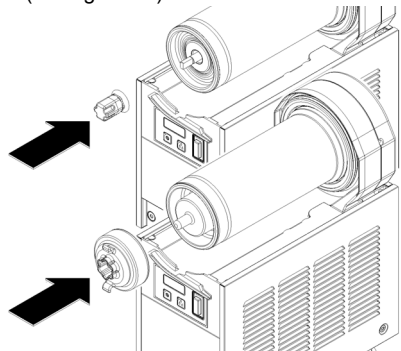

figure 10
- 5 Insert the magnetic outside rotor in the evaporator taking care to accompany it to the end (see figure 10).